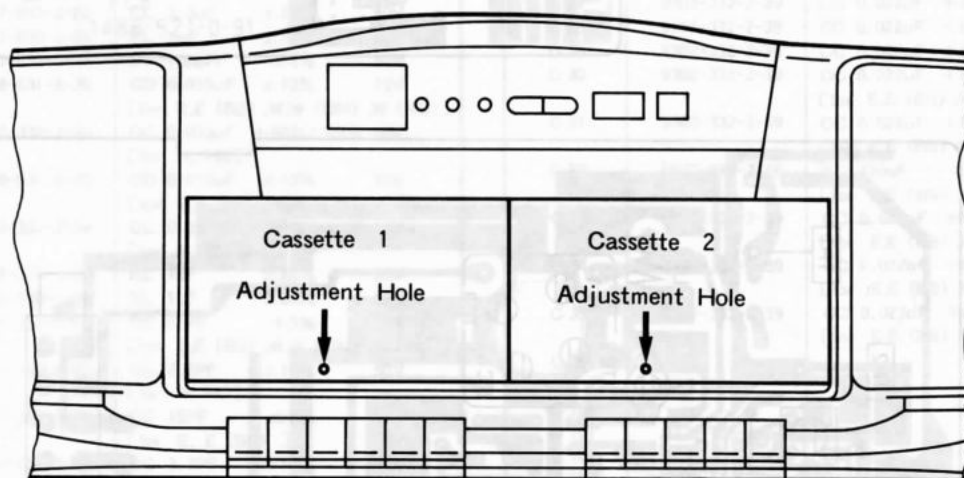

Figure 15
**Playback Head Azimuth Adjustment (Cassette 1) (Figure 15)**
**Record/Playback Head Azimuth Adjustment (Cassette 2) (Figure 15)**